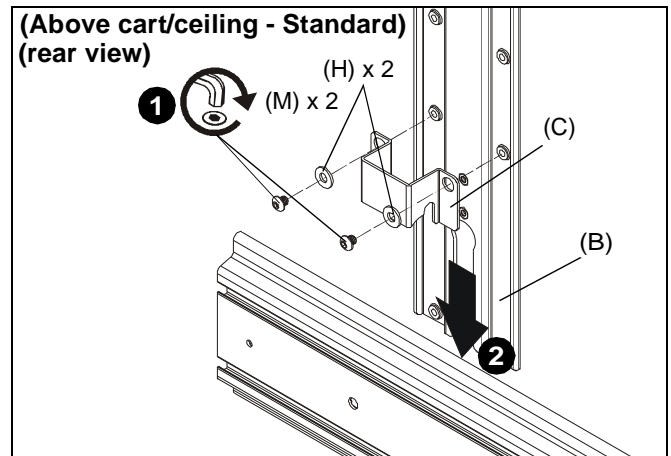

Figure 20
1. Use two 1/4-20 x 1/4" button head cap screws (M) and two large washers (H) to secure shelf bracket (C) to main bracket (B). (See Figure 20)
2. Slide main bracket (B) onto front of cart/ceiling mount head assembly until shelf bracket (C) rests on top of head assembly. (See Figure 20)